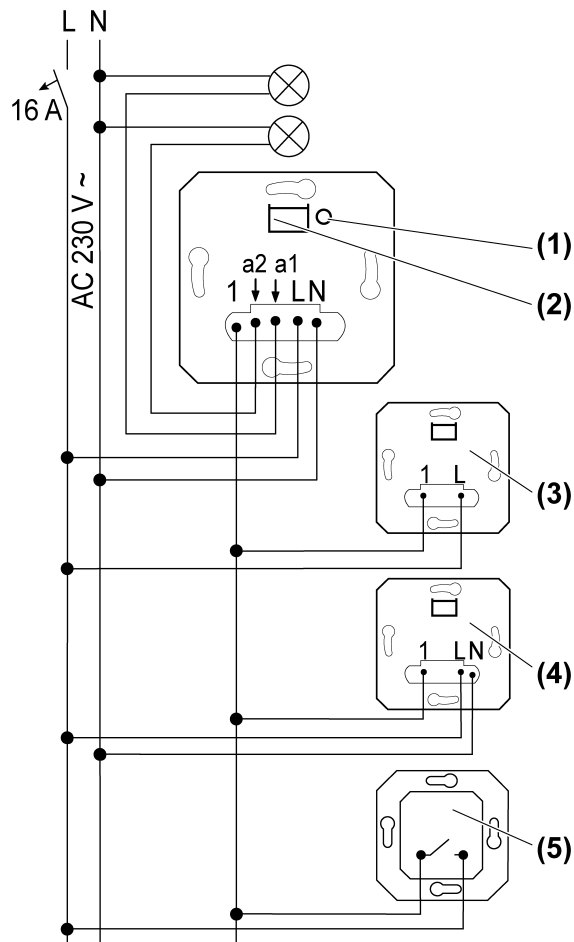
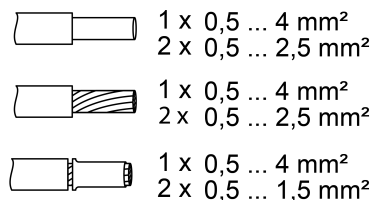

Figure 1: Connection diagram with optional extensions
Figure 2: Clampable conductor cross-section
- Connect the switch insert according to the connection diagram (Figure 1). Observe the clampable conductor cross-sections (Figure 2).
- i** The load at both outputs can be switched by briefly pressing the **TEST** button (1) (switching states: **a1** on **a2** off, **a1** off **a2** on, **a1** and **a2** on, **a1** and **a2** off).